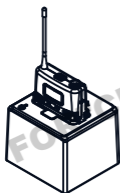
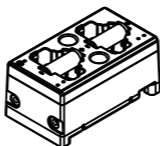

Fig. 29:
Fig. 31: 18500 rechargeable
1. Transmitter(s) can be inserted into single-docking or dual-docking battery chargers (Fig. 29 & 30) or 18500 rechargeable battery can be recharged in dual-docking battery charger (Fig. 31).
2. MP-8 single-docking battery charger, Fig. 29.